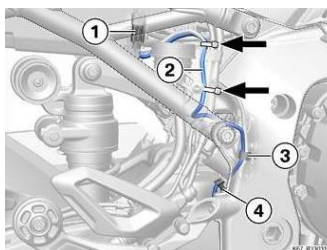

FIG 2
9. Disconnect DTC wire from clamps to allow slack. **(FIG 2)**